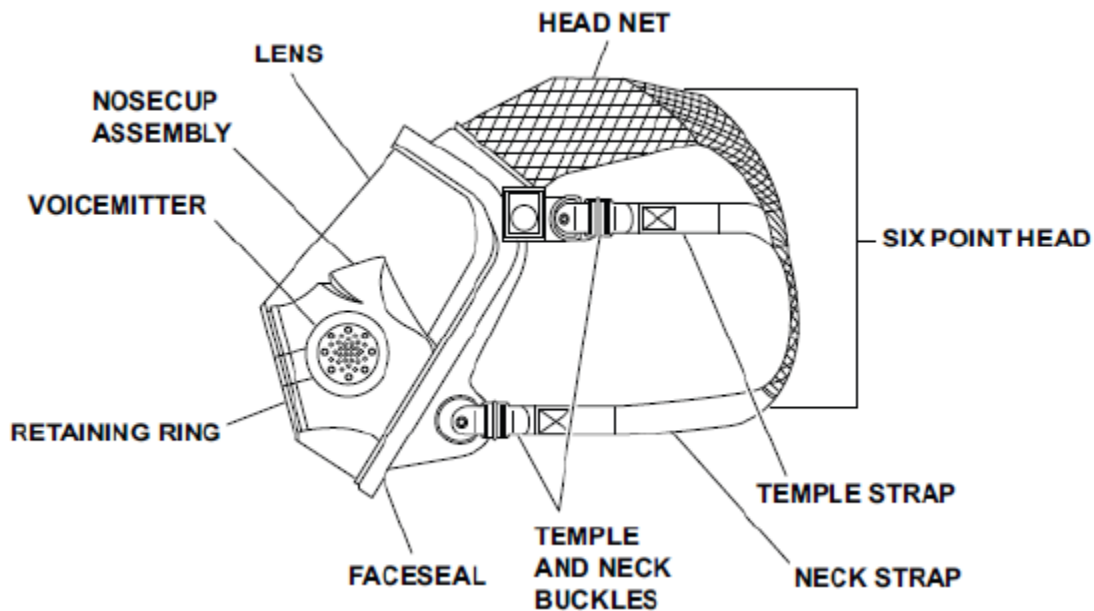

Figure 551-88L-2049_15
(6) Check the mask-mounted regulator, (refer to Figure 551-88L-2049_16).